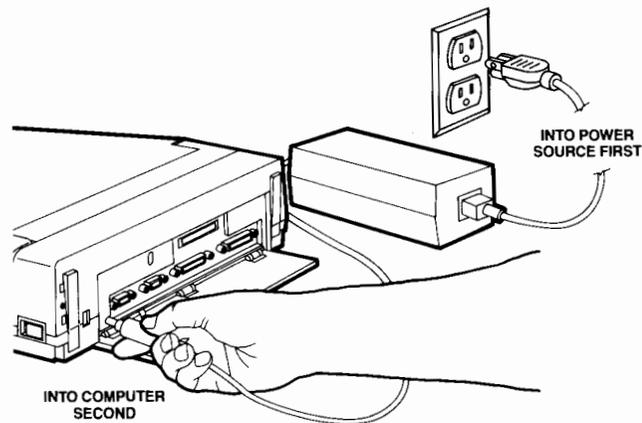

Figure 1-1. Power Adapter Connection
3. Find the computer power cord and power adapter. Plug the appropriate end of the power cord into the connector on the adapter. Plug the power cord into a properly rated power outlet. Then, plug the adapter into the back of the computer as shown in Figure 1-1.